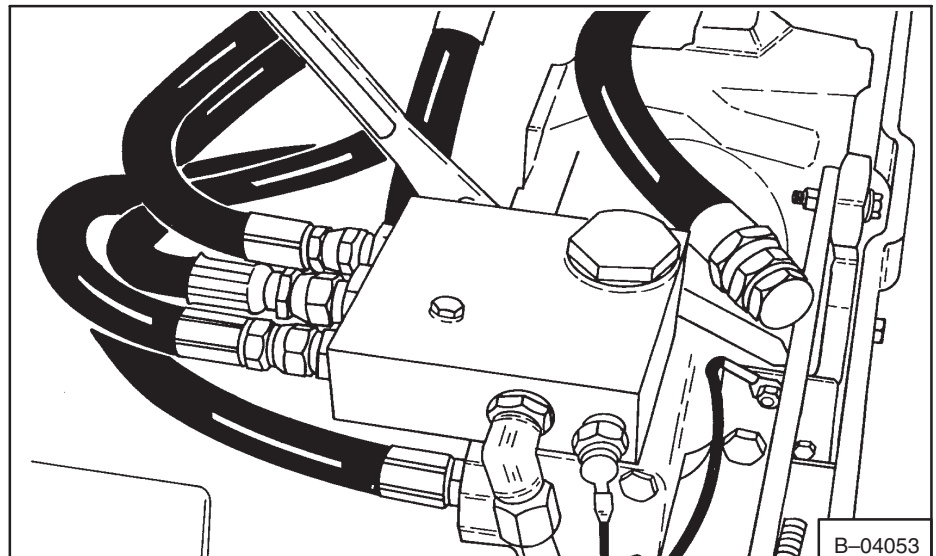

**Fig. 3-26** Installing The Filter
8. Put the sleeve on the new filter, install the filter, sleeve and spring into the port block (Fig. 3-26).